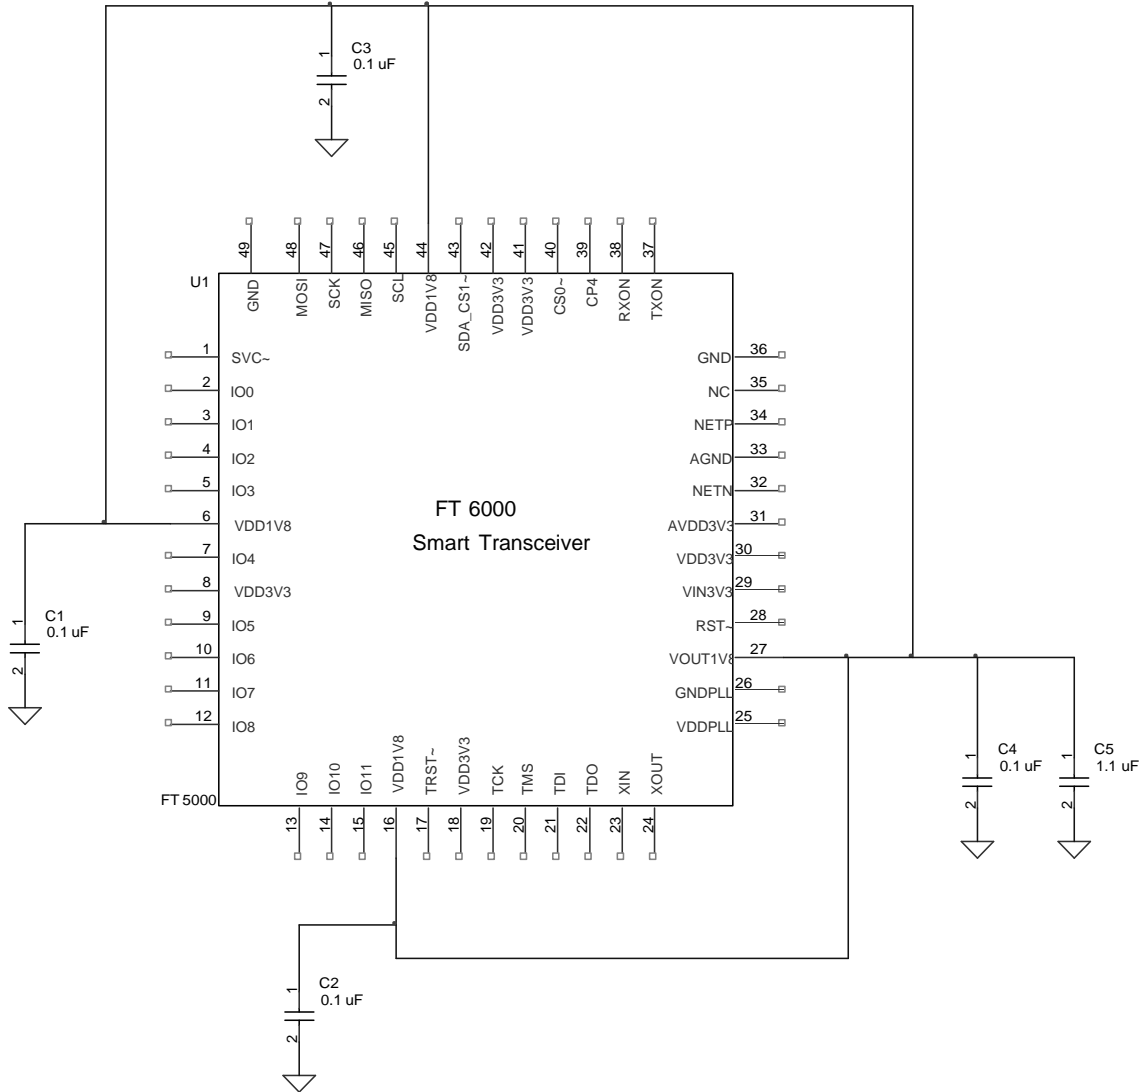

Figure 11. Connections for the VDD18 Pins
The **VOUT1V8** pin (27) is the output of the on-chip voltage regulator. Connect the **VDD1V8** pins (6, 16, and 44) to the **VOUT1V8** pin (27) to connect the 1.8 V input pins to the output of the internal voltage regulator, as shown in **Figure 11**. Connect a bulk decoupling capacitor (**C5** in **Figure 11**) near the **VOUT1V8** pin (27), in addition to the other decoupling capacitor.